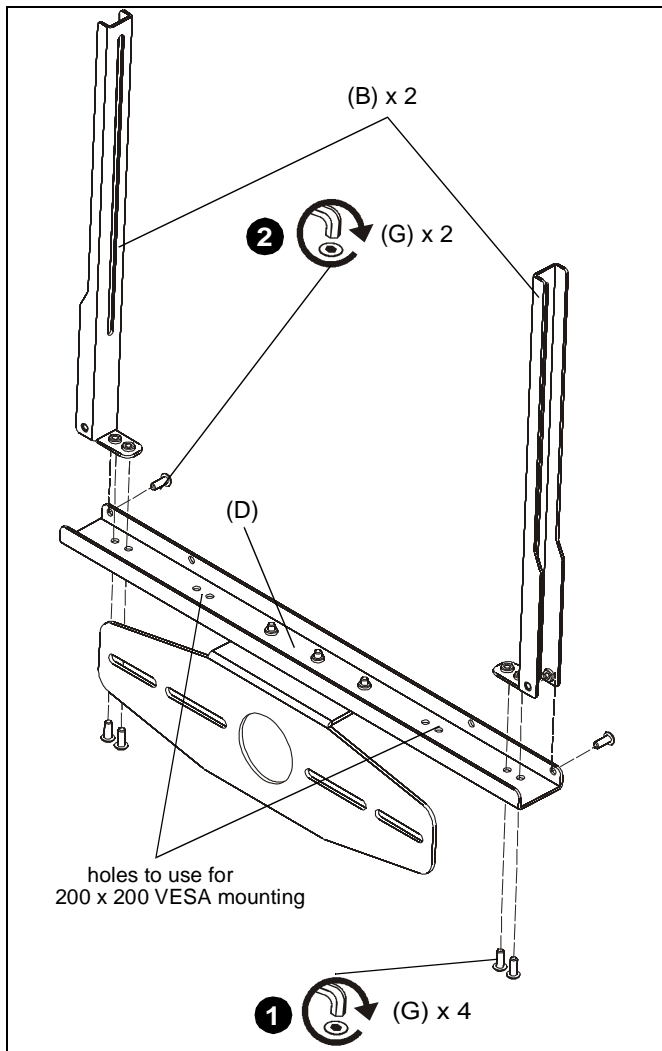

Figure 1
The PACCC2 is designed to accommodate both 200 x 200 VESA and 14" x 14" display mounting patterns. If 200 x 200 pattern is required use the inner mounting holes when connecting height-adjust brackets (B) to center plate (D). (See Figure 1)
1. Connect center plate (D) to height-adjust brackets (B) by installing four #10-24 x 1/2" button head cap screws (G) through holes on center plate (D) and height-adjust brackets (B). (See Figure 1)
2. Secure center plate (D) to height-adjust uprights (B) by installing two #10-24 x 1/2" button head cap screws (G) through back holes on center plate (D) and height-adjust brackets (B). (See Figure 1)
1. Connect center plate (D) to height-adjust brackets (B) by installing four #10-24 x 1/2" button head cap screws (G) through outer holes on center plate (D) and height-adjust brackets (B). (See Figure 1)